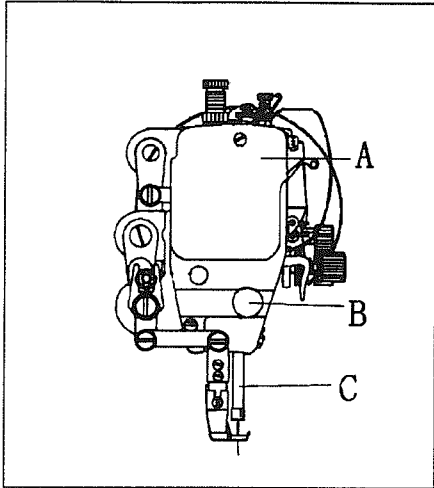

Fig. 18
16. TIME NEEDLE TO ROTAING HOOK (Fig.18,19,20,21)
A. Adjusting the needle position (See Fig.18)
- 1) Turn balance wheel by hand to bring Needle Bar (C) to the lowest position of its stroke.
- 2) Remove rubber plug from Face Plate (A).
- 3) Loosen Set Screw (B) of needle bar adaptor.
- 4) Move Needle Bar (C) vertically to adjust needle timing.
- 5) After the adjustment, tighten Set Screw (B) and put in the rubber plug. The standard needle timing (See Fig.18) is to align Timing Mark (B) on the needle bar and the bottom of Needle Bar Bushing (A) and meanwhile align the Inner Surface (E) of the hook and the center of Needle Eye (D) when the needle bar gets down to its lowest position.